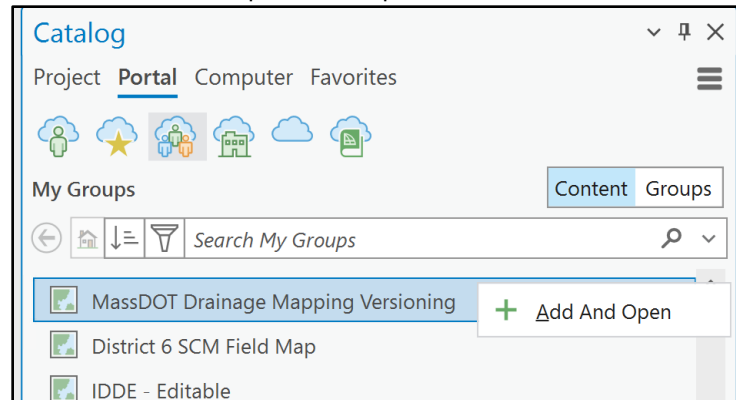

Figure 6
9. Right click on the MassDOT Drainage Mapping Versioning map and select "Add and Open" (Figure 6). It may take a few minutes to load and open the map.